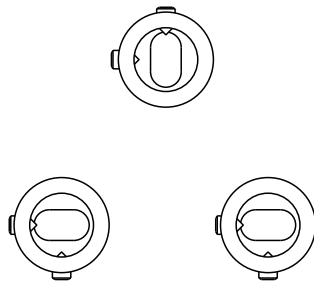

fig 1. bracket positions
Position brackets (B) on wall with grub screw holes as shown in figure 1 for maximum rigidity before tightening screws (C).